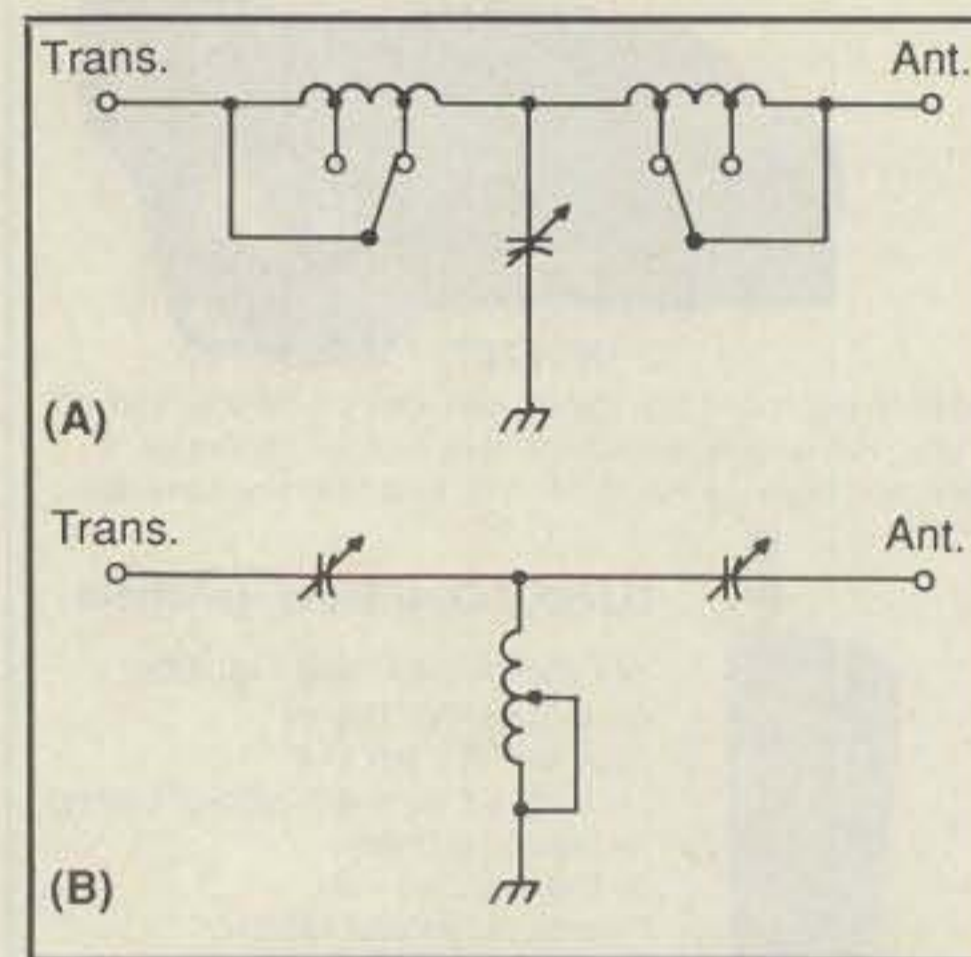

Fig. 1—At (A) is the circuit for the two-inductor-type tuner, while at (B) is the two-capacitor type.
When Advance Electronic Applications (AEA) brought out their new antenna tuner (Transmatch), I had the opportunity to review the unit for CQ. The Model AT-300 is a departure from the conventional two capacitor, one inductor (Walt Maxwell, W2DU) circuit. I have shown both types in fig. 1 at (A) and (B). Before going ahead, let me backtrack a little into the history of the antenna tuner so you have a better idea of the whys and wherefores.
I tried both the circuits shown in fig. 1 back in those days, and my conclusion was that while the two-inductor approach had better harmonic rejection, it was much tougher to get the parts—particularly switches. The use of two inductors and a single capacitor worked just as well as two capacitors and a single tapped inductor in most cases as far as matching was concerned. The main reason I never used the two tapped inductors was simply that it entailed using switches with multi-contacts, and they were hard to come by, as I stated above. Of course, AEA solved that problem by manufacturing their own switches. I am sure that arguments will go on over the merits of the two systems, but from my viewpoint . . . Let me tell you about my tests with the Model AT-300.